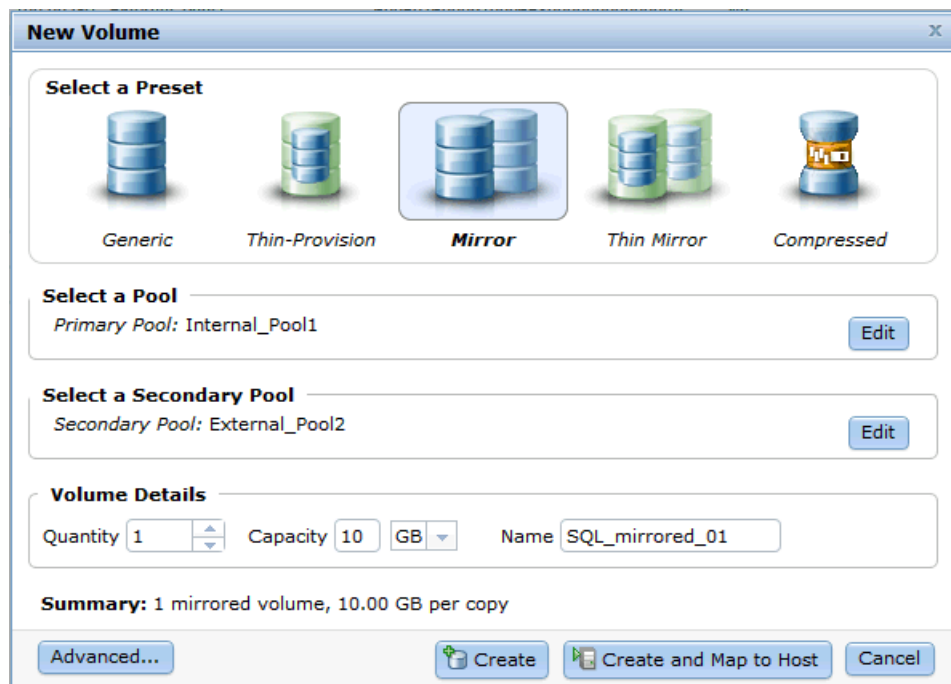

Figure 6-12 Create a mirrored volume - Select pools, name, and size
- Select the secondary pool by clicking it, and enter a volume name and the required size (Figure 6-12).
- In the advanced mirroring settings, you are able to specify a synchronization rate. Enter a Mirror Sync Rate between 1 - 100%. With this option, you can set the importance of the copy synchronization progress, which enables you to prefer more important volumes for synchronization faster than other mirrored volumes. By default, the rate is set to 50% for all volumes. Click **OK** to return to Figure 6-12 on page 264.